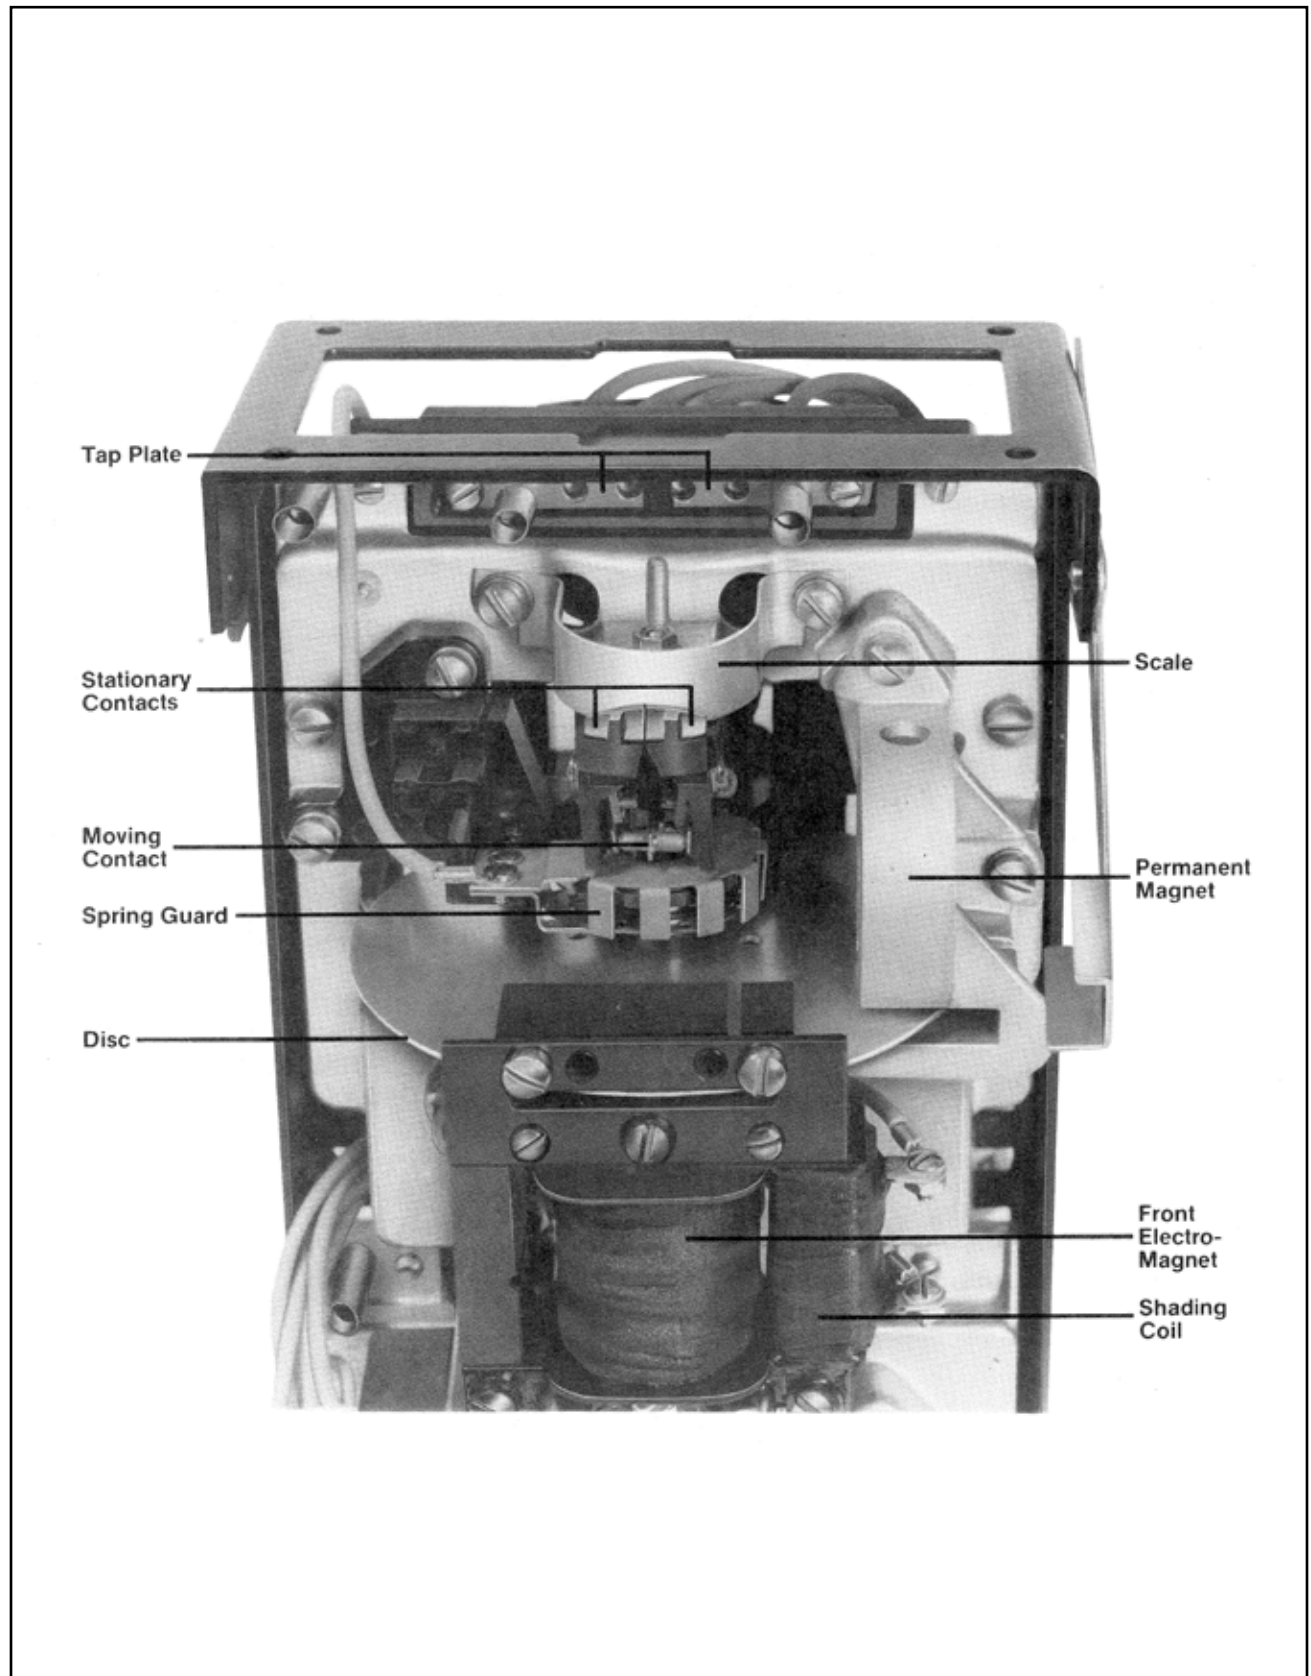

Figure 2 - Element Assembly of Tapped CM Class 1E Relay (Front View)
**Note:** A spring shield (See Figure 2) covers the spiral spring on each CM element. When adjustments to the spring(s) are deemed necessary, the spring shield must be carefully removed first.